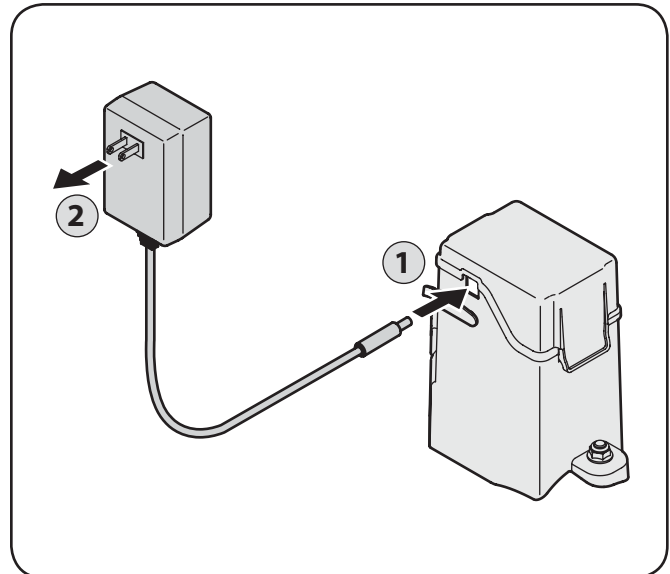

Figure 7-4
1. Unhinge the cover seal and plug the battery charger into the port on the side of the battery housing. See Fig. 7-4.